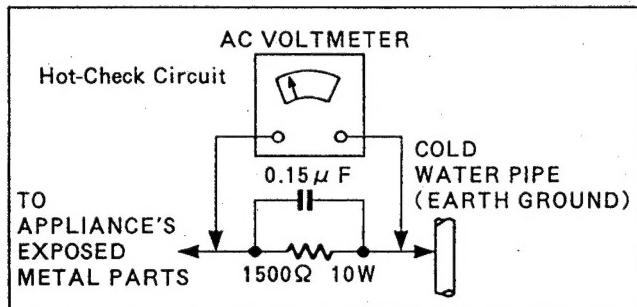

Figure 1
## LEAKAGE CURRENT HOT CHECK (See Figure 1)
2. Connect a 1.5KΩ, 10W resistor, in parallel with 0.15  $\mu$  F capacitor, between each exposed metallic part on the set an a good earth ground such as a water pipe, as shown in Figure 1.